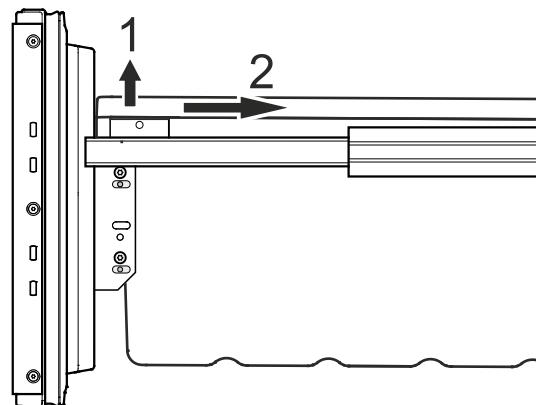

Figure 15
- Unlatch the container on the left and right corners by pulling upwards (1) - **Figure 15**.
- Slide the container backwards (2) - **Figure 15**.